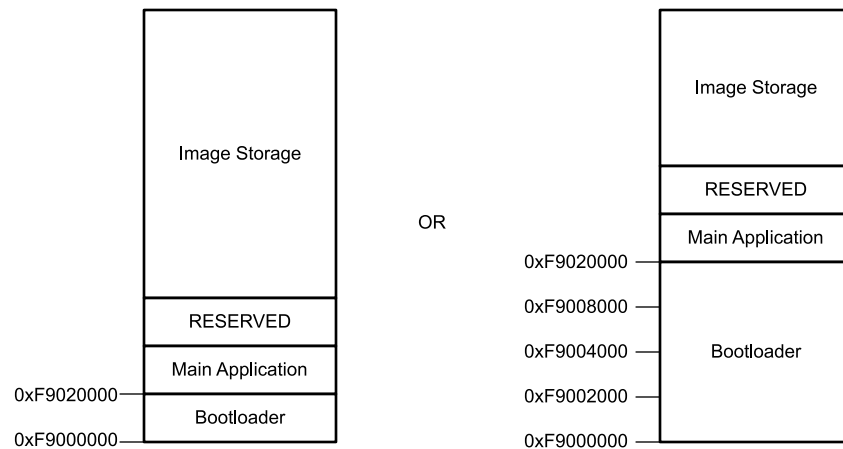

Figure 7-2. Boot Flash Memory Layout
All applications require both the controller and DMD components for reliable operation. The system uses an external parallel flash memory device loaded with the DLPC900 configuration and support firmware. The external boot flash must contain a minimum of 2 sectors, where the first sector starts at address 0xF9000000 which is the power-up reset start address. The first 128-kilobytes is reserved for the bootloader image and must be in its own sector and can be made up of several smaller contiguous sectors that add up to 128-kilobytes as shown in Figure 7-2. The remaining sectors contains the rest of the firmware. The default wait-states is set for a flash device of 120-ns access time. For a faster flash access time, refer to the Section 7.2.1.2.1.4.2 on how to program new wait-state values.
- PM_CSZ_1 – dedicated CS for boot flash device (≤ 16 -megabytes). Refer to the Figure 7-2 for the memory layout of the boot flash.